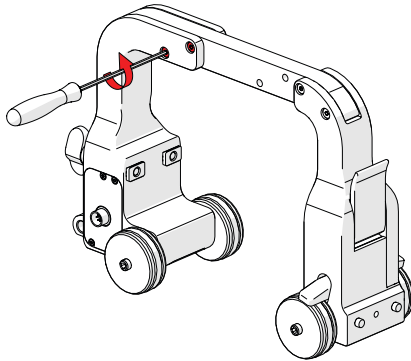

Fig. 10 - Remove shoulder screws
1. Use the supplied 2 mm hex driver to remove the 2 shoulder screws (Fig. 10).